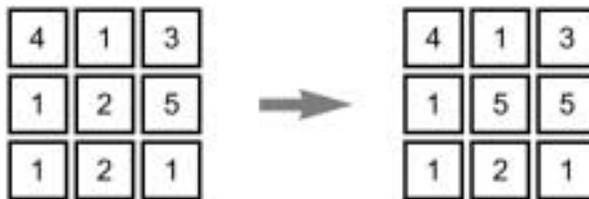

Figure 5-67. High filtering function applied to a 3x3 matrix.
- Selecting High changes the value of X to the highest value in the matrix (as shown in Figure 5-67).